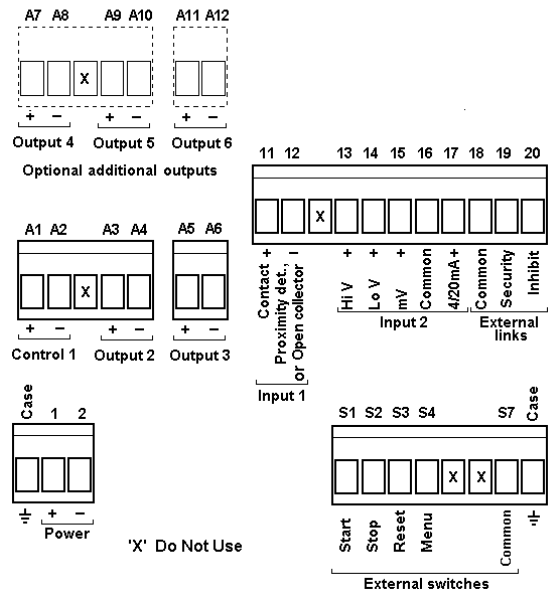

Fig 10 Installation and terminal connections
- c. Connect the panel wiring to the rear terminal block(s) as shown in Fig 10. To simplify installation, the terminals are removable so that panel wiring can be completed before the instrument is installed.